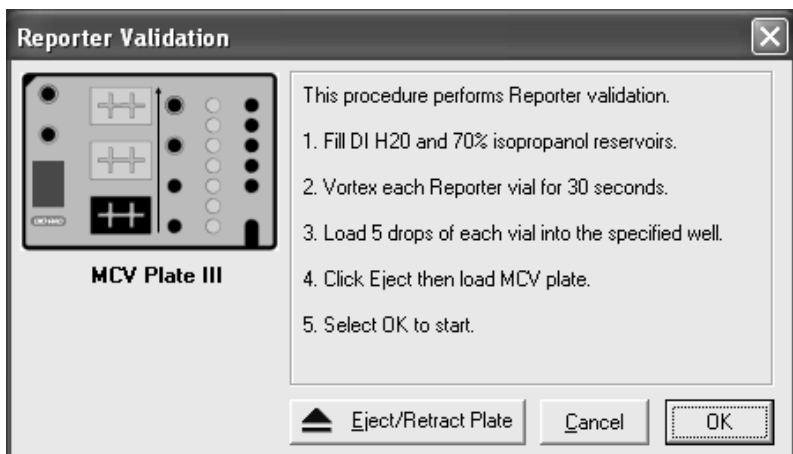

Fig. 8. Reporter validation dialog.
- Place 5 drops of each reporter bead into the corresponding reporter well labeled as Blank, 1, 2, 3, 4, 5, and 6 in the MCV plate III (see Figure 8).
- Select Instrument from the main menu. Select Validation from the pull-down menu. A dialog will appear. Enter user name and control number. Select Reporter Validation. Select OK. The following dialog appears: (Figure 8)